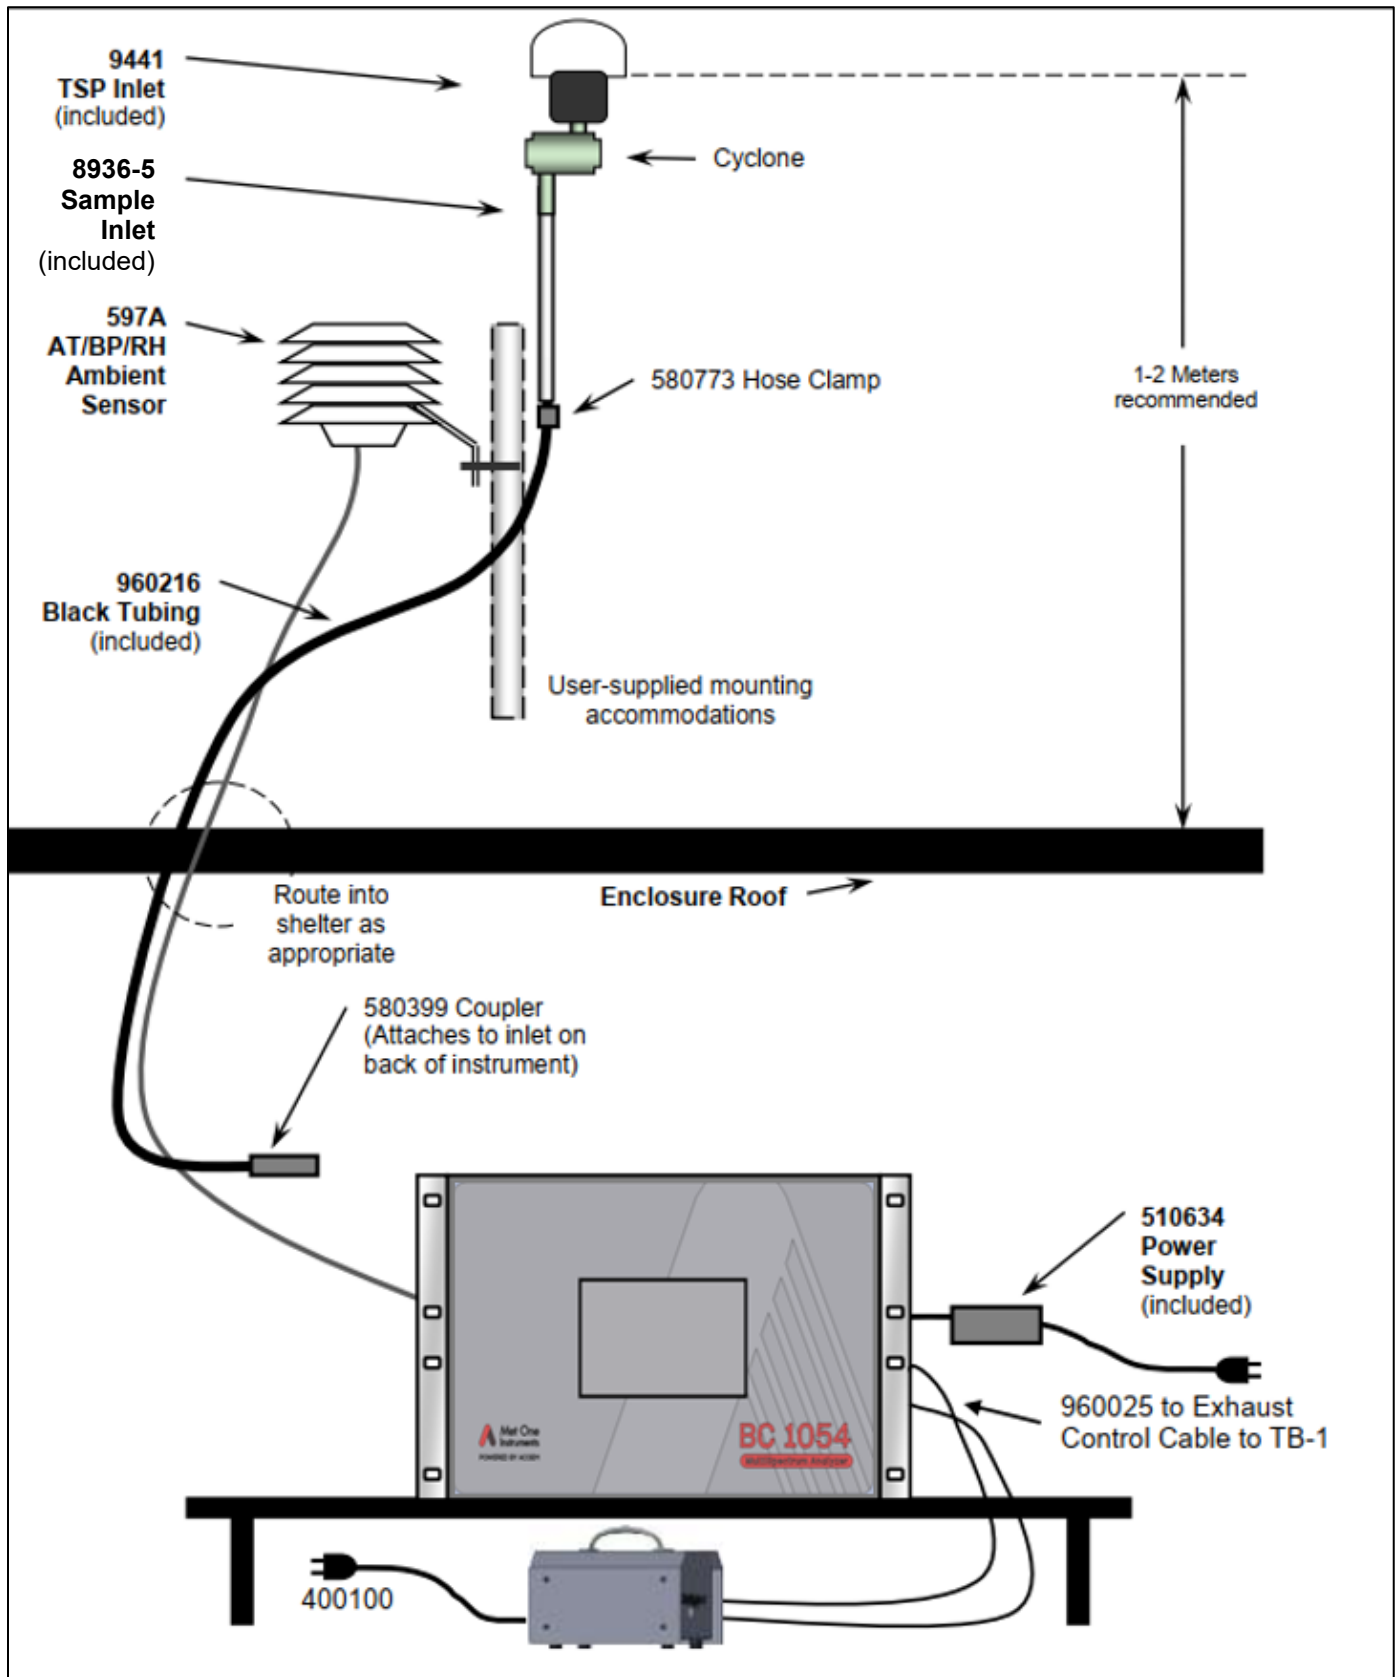

Figure 2-1 Typical BC 1054 Installation in a Walk-in Shelter
At the sample location, the SCC is coupled directly to the bottom of the 9441 TSP inlet in stock configuration. It is then mounted on the 8936-5 support tube. The flexible ESD sample tubing is then slipped over the barbs on the support tube. A worm-gear hose clamp (pn: 480773) is used to secure the tubing to the support tube. The other end of the sample tubing is routed to the BC 1054, grounded to a terminal on the back of the instrument, and is then installed on the rear of the monitor using a push-to-connect fitting (pn: 580399). See **Figure 2-1**.
3. **Connect the BX-597A AT/BP/RH Ambient Sensor:** The BC 1054 comes with a BX-597A combination ambient temperature, barometric pressure, and relative humidity sensor. The sensor must be mounted to be able to monitor the ambient conditions of the area being sampled (see **Figure 2-1**).
Connect the BX-597A AT/BP/RH Ambient Sensor: The BC 1054 comes with a BX-597A combination ambient temperature, barometric pressure, and relative humidity sensor. The sensor must be connected and mounted to be able to monitor the ambient conditions of the area being sampled (see **Figure 2-1**).